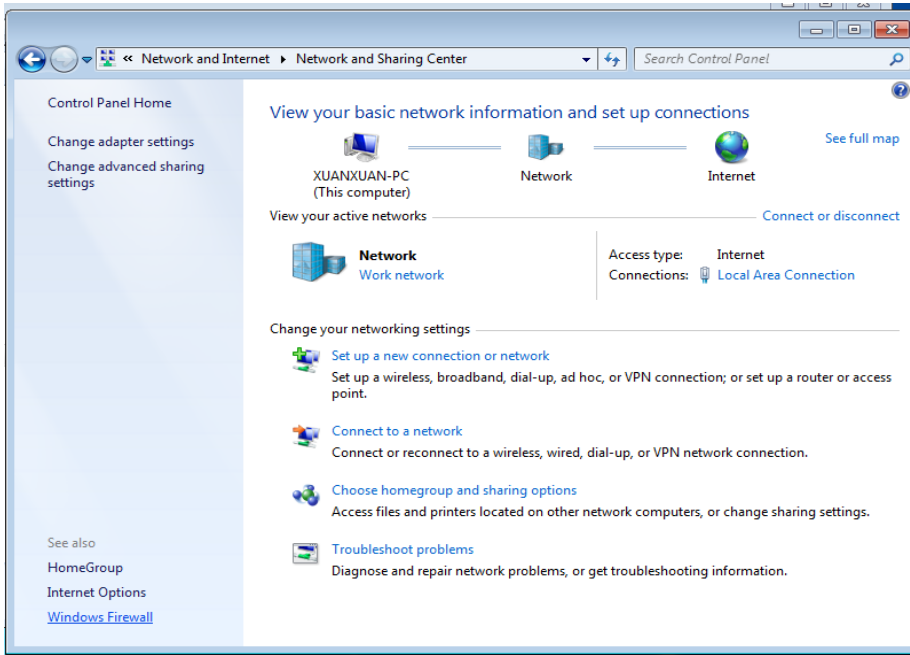
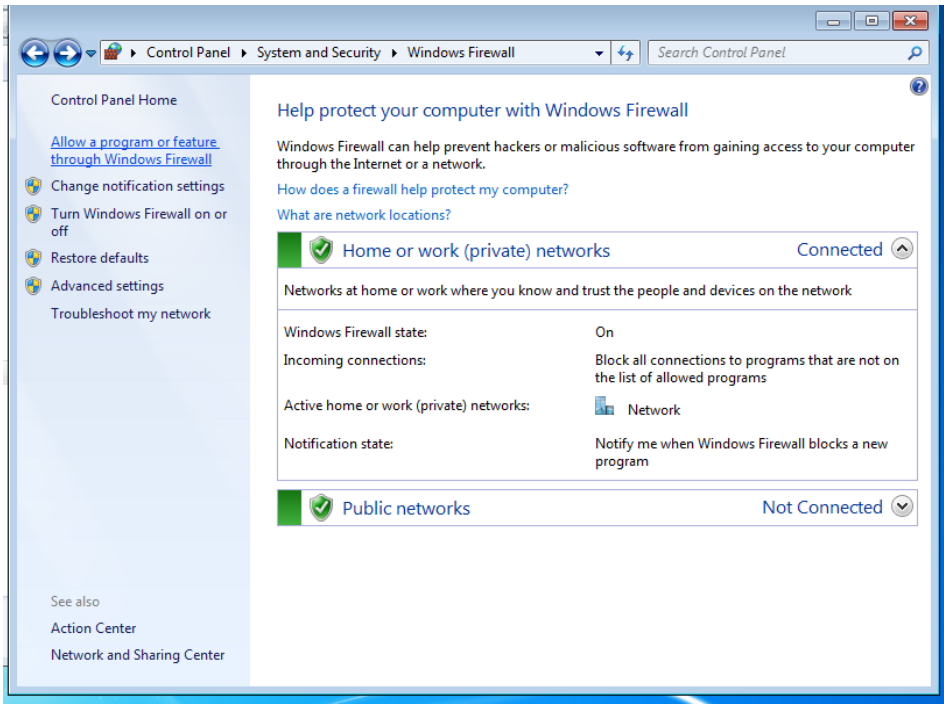

Fig.1.15 Network and Sharing Center
Fig.1.16 Windows Firewall
- (3) Click “Windows Firewall” in Fig.1.15, the interface will pop up ” (see Fig.1.16)
(4) Click “Allow a program of feature through Windows Firewall” (see Fig.1.16).